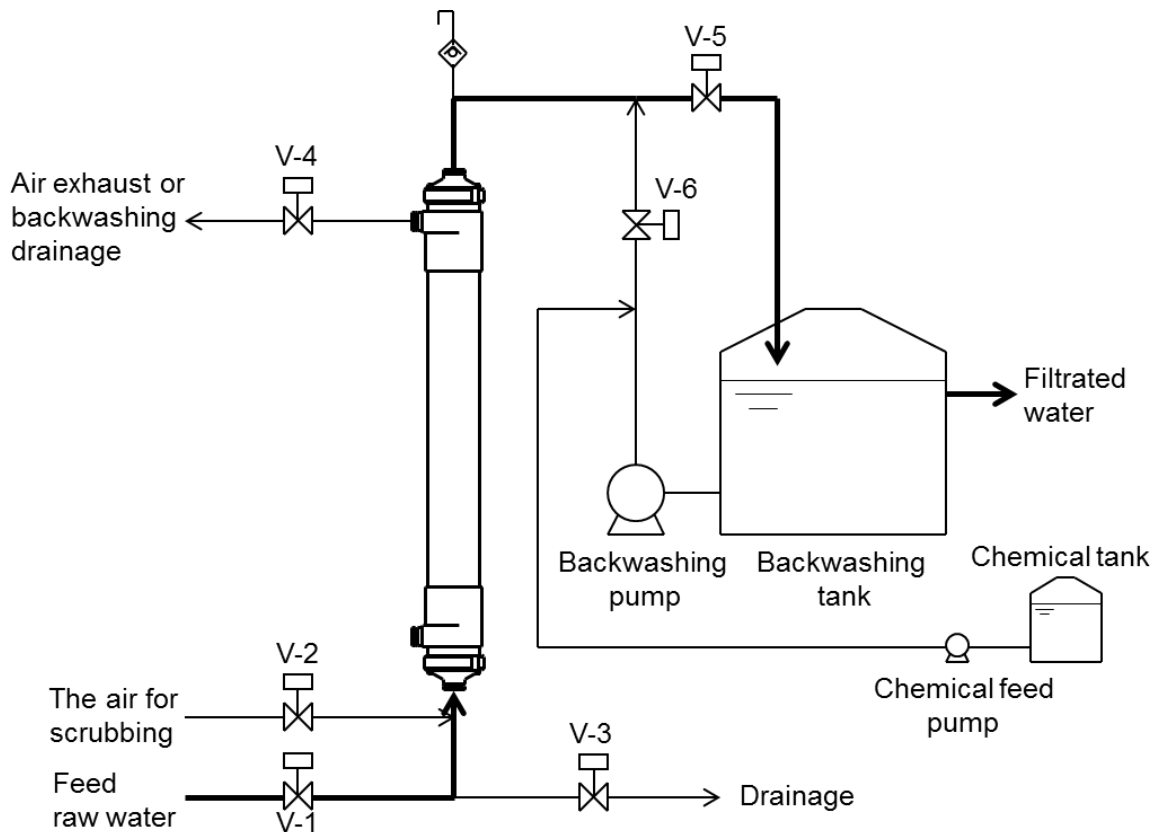

Fig. 3 Typical example of piping
5. Connect the piping to each connection point of the module with Housing type joints (HFU-2020HN) (see Fig. 3). The maximum fastening power of the Housing type joints should not exceed 40 Nm. When you tighten or loosen the Housing type joints, make certain to maintain sufficient space prior to the work and be careful not to be wounded by swinging out or clipping your fingers.
- (1) Check that all piping is connected appropriately and flushed out prior to the operation. Fig. 3 shows a typical example of piping.